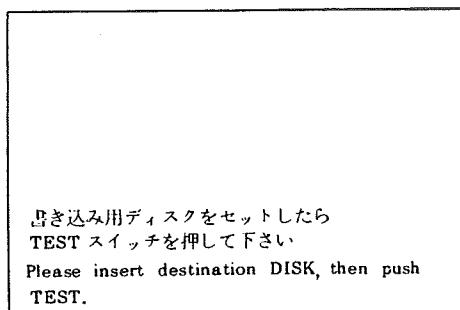

Fig. 5
(3) When the reading is finished, Fig. 5 will be shown.